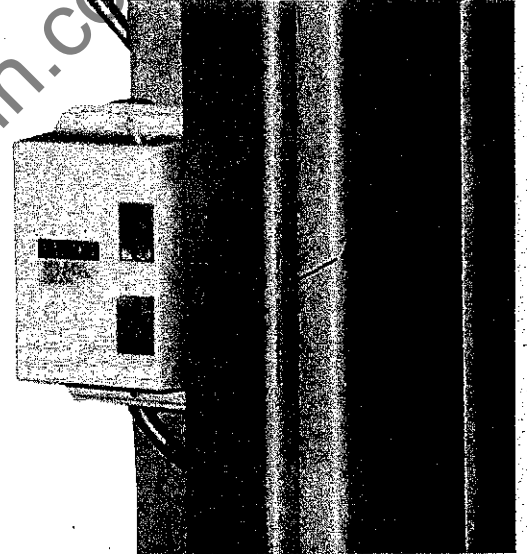

FIG 9
6. Insert blade through slot "A", FIG.9, and through slot in table then position blade on top and bottom wheels.